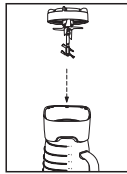

Fig. 4
4. Turn the multi-functional blade with sealing ring upside down and place into the bottom of the jar (Fig. 4).